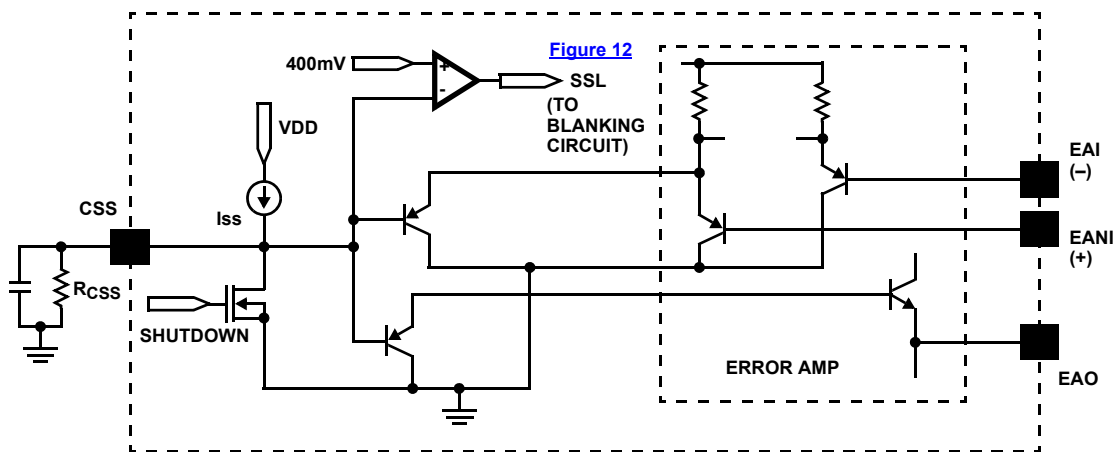

FIGURE 7. SIMPLIFIED CLAMP/SOFT-START
- Both EANI and EAO are clamped by the voltage ( $V_{clamp}$ ) set at the CSS pin, as shown in Figure 7. Note that the diodes in the functional block diagram represent the clamp function of the CSS in a simplified way.
- The clamping voltage determines the cycle-by-cycle peak current limiting of the power supply. It should be set above the EANI and EAO voltages and can be programmed by an external resistor as shown in Figure 7 using Equation 3.
- In current mode control, the sensed switch (FET) current is processed in the Ramp Adjust and LEB circuits and then compared to a control signal (EAO voltage). Spikes, due to parasitic elements in the bridge circuit, would falsely trigger the comparator generating the PWM signal. To prevent false triggering, the leading edge of the sensed current signal is blanked out by a period that can be programmed with the R\_LEB resistor. Internal switches gate the analog input to the PWM comparator, implementing the blanking function that eliminates response degrading delays, which would be caused if filtering of the current feedback was incorporated. The current ramp is blanked out during the resonant delay period because no switching occurs in the lower FETs. The leading edge blanking function will not be activated until the soft-start (CSS) reaches over 400mV, as illustrated in Figures 7 and 12. The leading edge blanking (LEB) function can be disabled by tying the R\_LEB pin to VDD, i.e., LEB = 1. Never leave the pin floating.